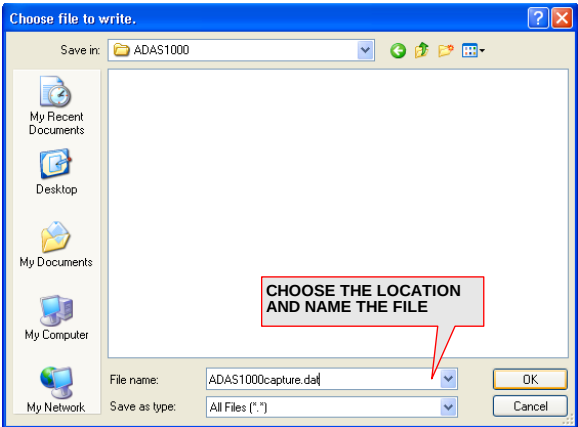

Figure 24. Choose the Location and Name the File
- 1. When you click **Write to File**, a **Choose file to write** window opens (see Figure 24).
- 2. Select the appropriate location and name the file with the name of your choice. Using an extension like .dat or .xls works well here. The data is formatted tab delimited as shown in Figure 24. This data can be copied into Microsoft® Excel® and processed offline.